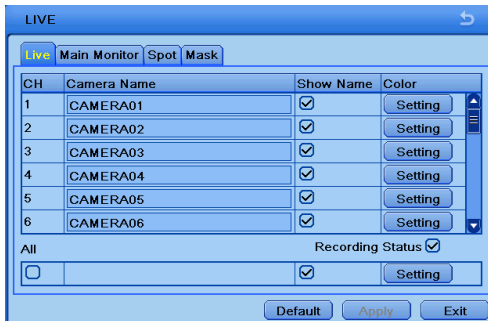

Fig 4-6 Live Configuration-Live
- ① Go to Main Menu→Setup→Live→Live. Refer to Fig 4-6.